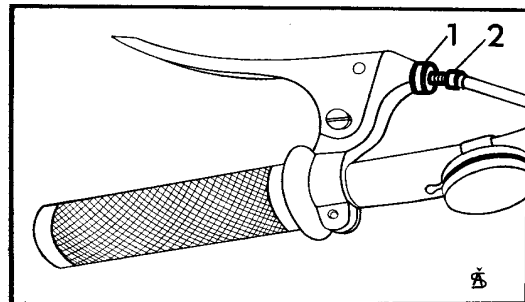

Fig. 14 Adjustment of brakes
For the current adjustment of front and rear brakes are used the screws arranged on the handlebars (fig.14). When adjustment loosen the knurled nut (1) and by screwing in or out the screw (2) is taken up the clearance of brake lever so that after the compression the lever is distant from the handle 20 to 30 mm. After adjustment of brake the nut (1) is to be tightened.